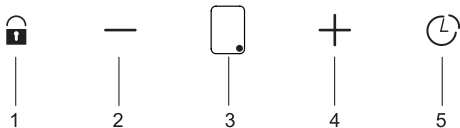

Fig. 7: Fan On/Off
2. After that, press and hold down the timer button until "0" appears on the digital display (Fig. 7/1).
3. After unlocking the fan, you may complete the setup using the "+/-" button for adjustment the operation speed (Fig. 7/2,4).